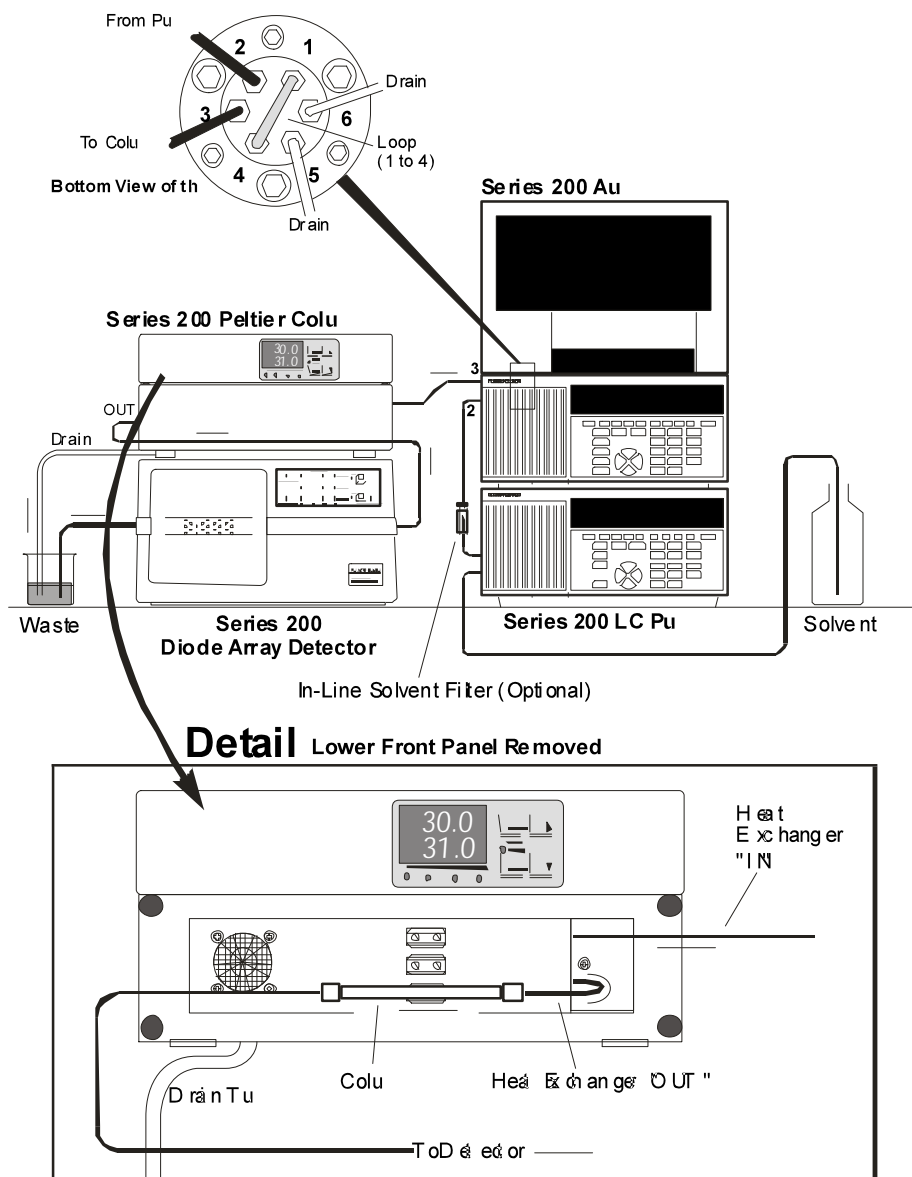

Figure 2-4. Series 200 Peltier Column Oven in a typical LC system.
The Series 200 Peltier Column Oven is designed to sit on a bench top (or on another module as shown in Figure 2-4). It is plumbed into the LC system between the autosampler and the detector. A space 17 cm (6.7 in.) high is sufficient, as columns are installed from the front of the oven. The oven is 16 cm (6.3 in.) high. See Table 1-2 for all the oven specifications.
1. Use standard 1/16-in. stainless steel or titanium tubing, and standard 1/16-in. nuts and ferrules for all tubing connections you make to the column oven inlet and to the column (see Figure 2-4).